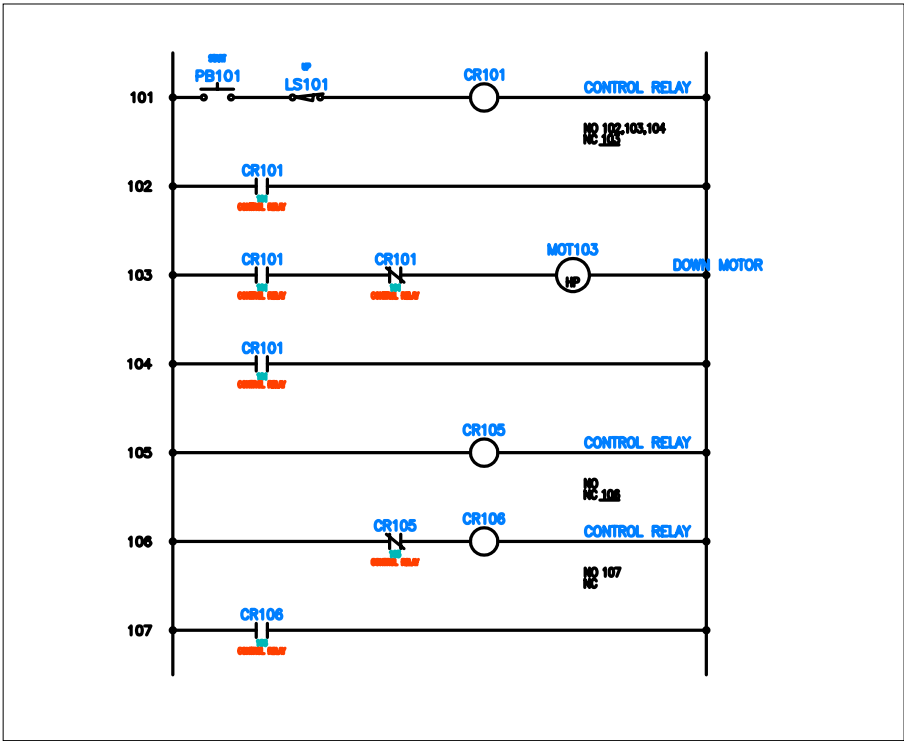

Figure 6-59 Components inserted in the drawing
4. After entering description and other information in the **Insert / Edit Component** or **Insert / Edit Child Component** dialog box, choose the **OK** button; the components are inserted in the drawing, as shown in Figure 6-59.